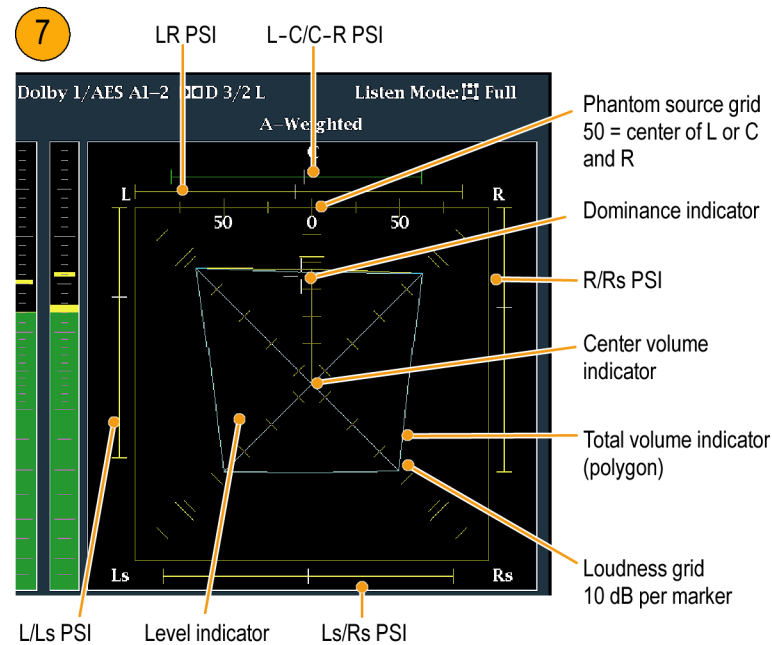

Figure 84: Surround sound indicators
7. Use the surround display to monitor relative loudness of the individual elements rendered in a surround-sound listening environment. Check the surround sound display for performance parameters and indicators. (See Figure 84.)